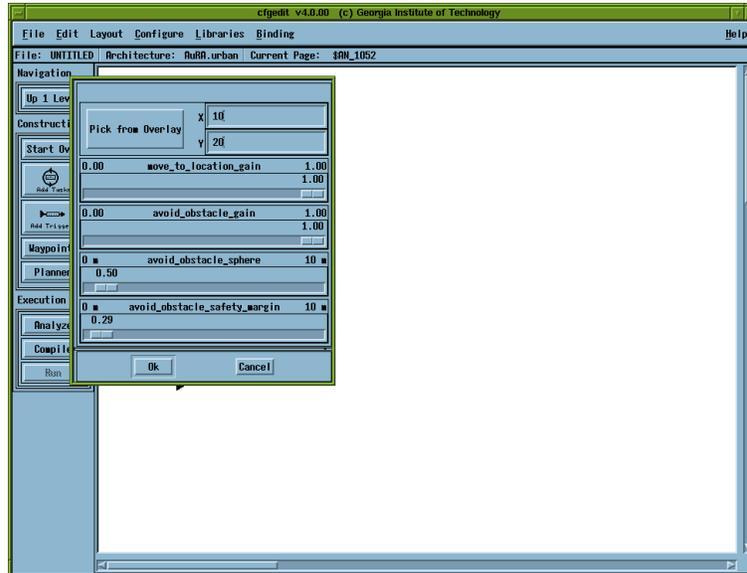

Figure 10: *CfgEdit* - specifying a goal location
- Type in a goal location (in the world coordinate), for example, to be $X = 10$, and $Y = 20$ (Figure 10).